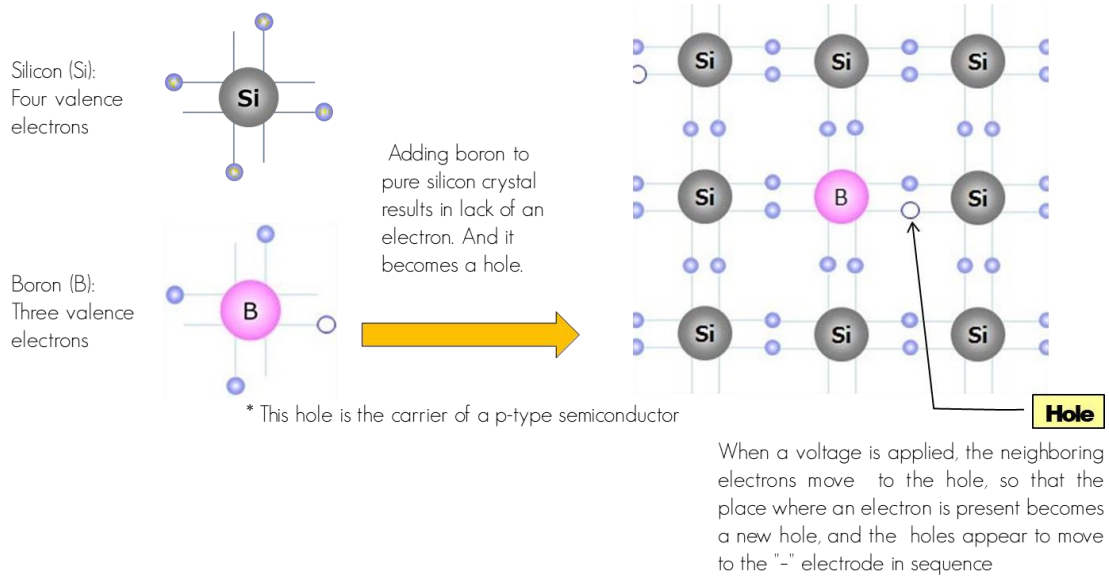

Figure 1.8 P-type semiconductor
- A p-type semiconductor is an intrinsic semiconductor doped with boron (B) or indium (In).
- Silicon of Group IV has four valence electrons and boron of Group III has three valence electrons as shown in Figure 1.8.